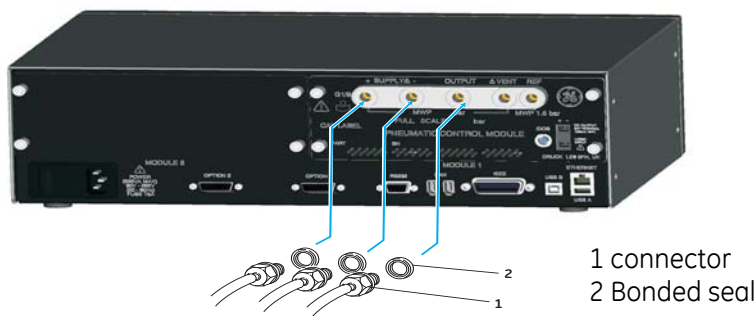

Figure 2-1, Pneumatic Connections
- The module with the highest pressure rating is fitted to the right hand side Module 1 position as viewed from the rear of the product, refer to (Ref: Fig 2-1)